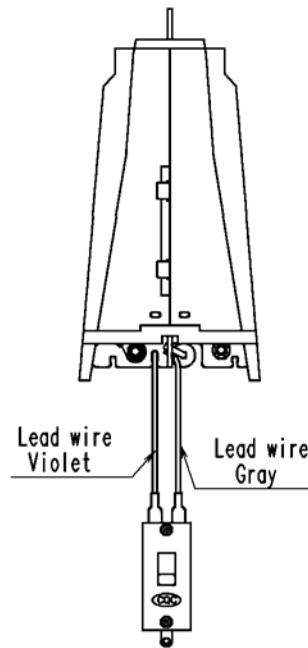

Figure 3
1. Assembly Select switch to Heater block by soldering Lead wires connect to the positions which are show in figure 3.